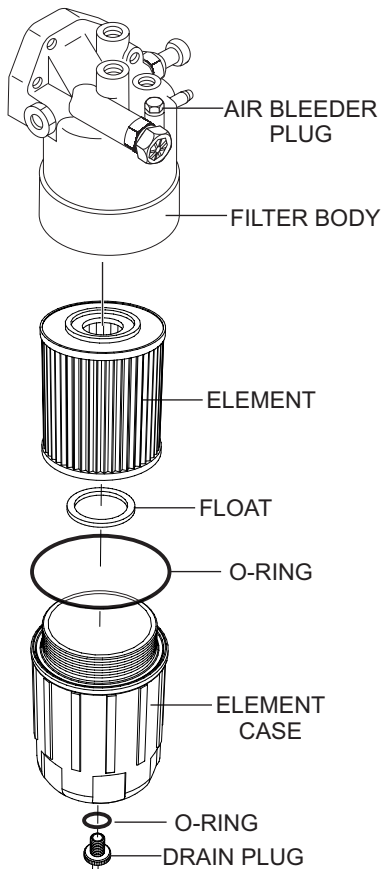

Figure 54. Fuel Filter Replacement
1. Using a **filter wrench**, remove the **element case** from the **fuel filter body** (Figure 54).
2. Wipe the inside of the **filter body** (Figure 54) with a clean cloth to remove any foreign matter or debris that may have accumulated.